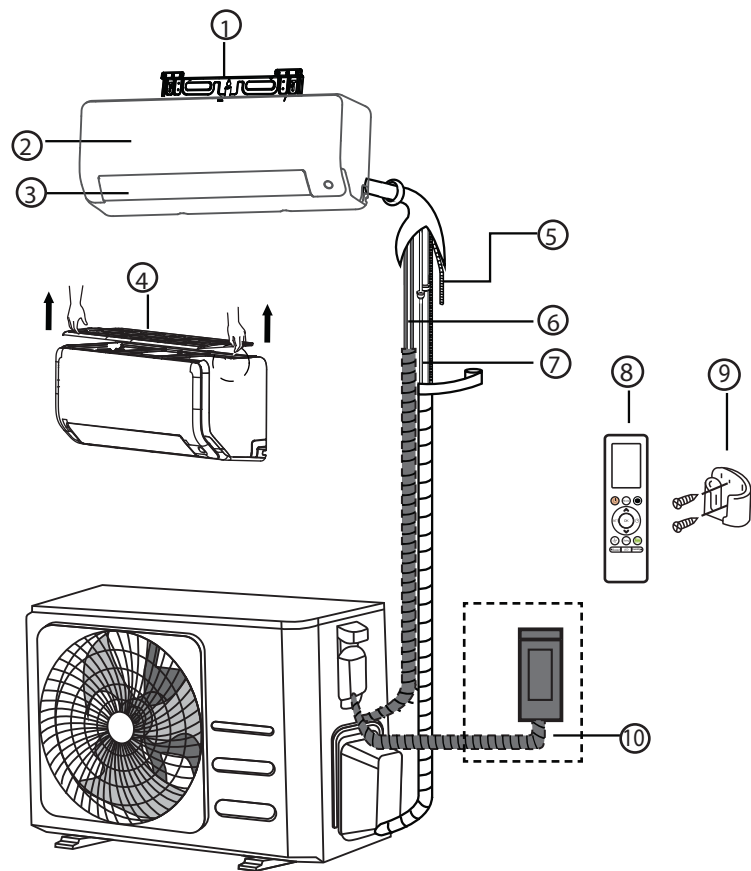

Fig. 2 — Parts
- The illustration above (Fig. 2) is only a sketch. Different models may differ slightly.